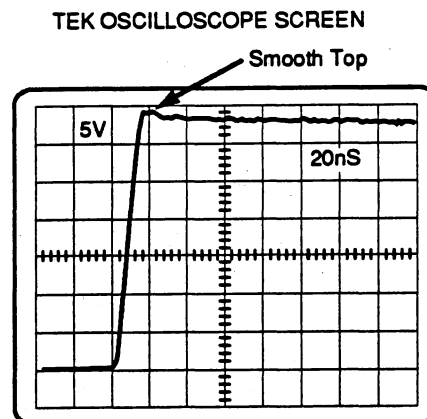

Figure 5-14: Z-Axis Compensation Adjustment
11. Adjust R18 and C17 (Z-axis compensation) for a flat top with a minimum of aberrations as shown in Figure 5-14.